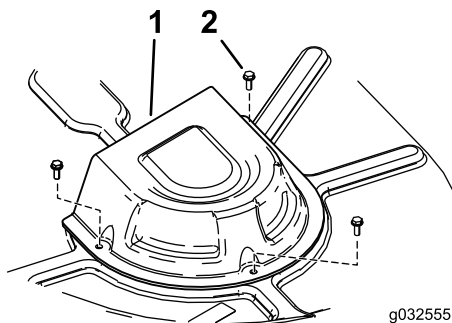

Figure 58
4. Remove the pulley covers (Figure 58).